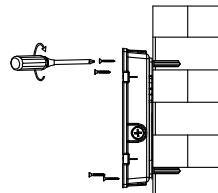

Figure 27
7. Using three (3) anchor bolts (not included), secure the back plate to the wall. (see Fig. 27)